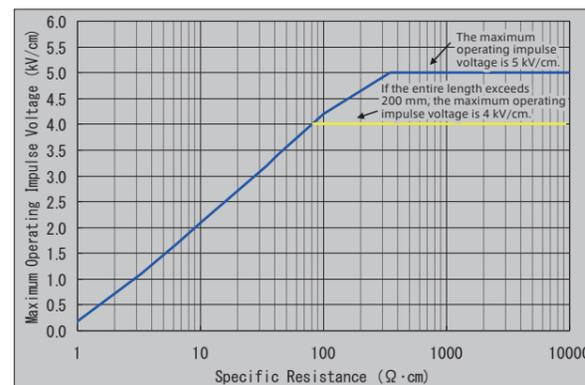

Fig. 7: Impulse Withstand Voltage vs. Specific Resistance (12/50 μs, in air)
Withstand voltage (1.2/50 μs)	See Fig. 7.
- ※1 The maximum operating impulse voltage varies depending on the resistance value. See Fig. 7 for details.